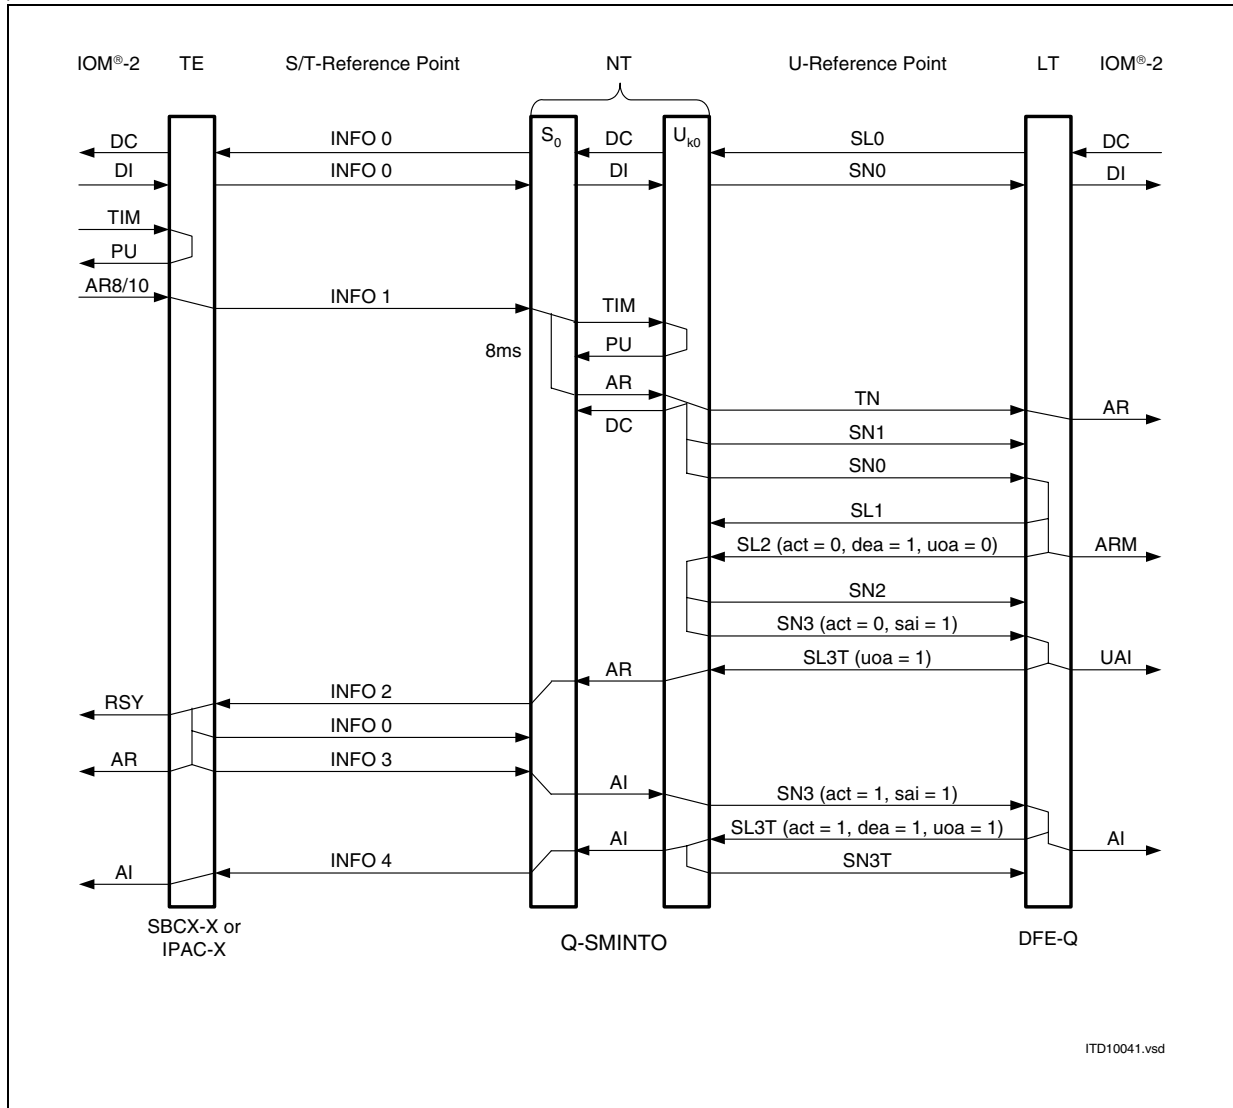

Figure 17 Complete Activation Initiated by TE
Figure 17 depicts the procedure if activation has been initiated by the terminal side (TE).